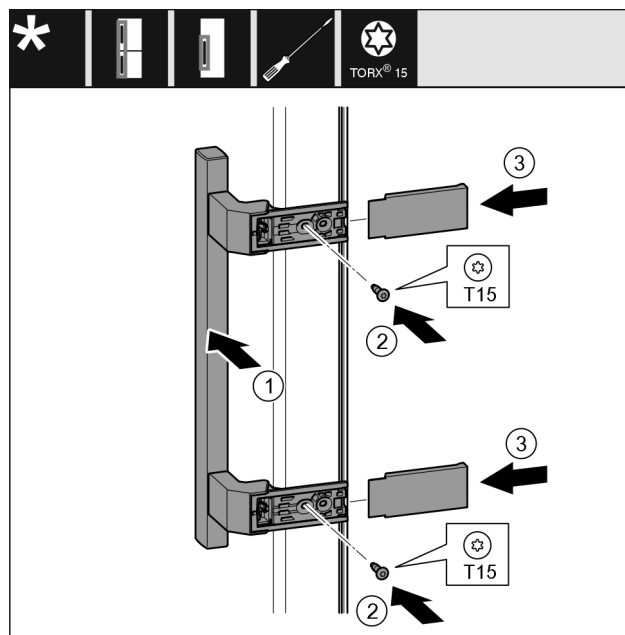

Fig. 23
- ▶ Attach the handle on Fig. 23 (1) the opposite side.
- ▶ Tighten the screws Fig. 23 (2) with the screwdriver.
- ▶ Attach the covers Fig. 23 (3) on the sides and slide them on.